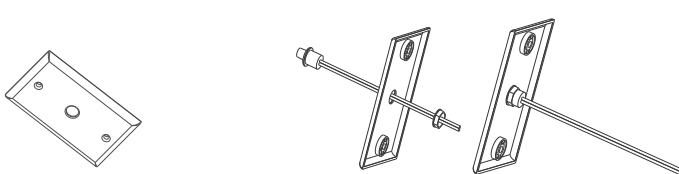

Figure 2-1
1. Assemble the indicator to the EM Inverter Indicator Wall Mount Plate (Figure 2-1).